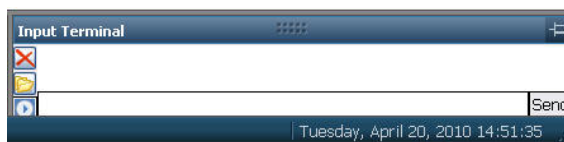

Figure 12: Input Terminal
24. Locate the *Input Terminal* on the bottom right (see Figure 12).
29. Compare the current NAV Firmware version in the Firmware folder with the installed version displayed in the *Input Terminal* window (see Figure 12).